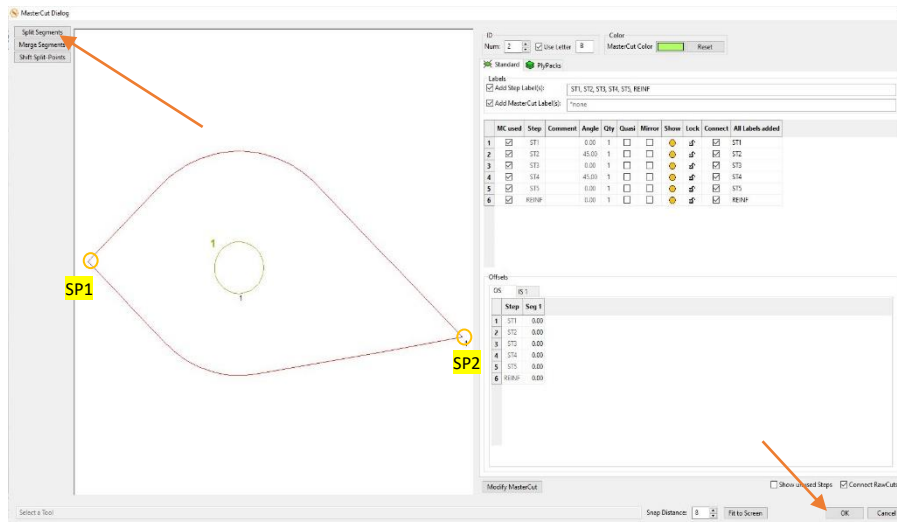

Figure 177
- Pick split points **SP1**, **SP2** (Figure 177).